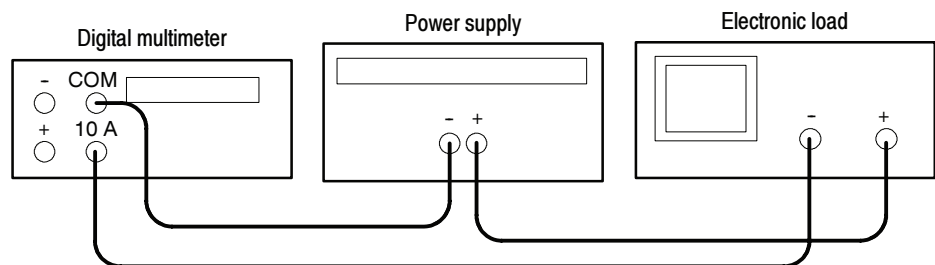

Figure 5: Constant current load test setup
2. Ensure that the power supply output is disabled. Connect the Current Meter and electronic load to the front panel OUTPUT 1 terminals. See Figure 5 for details.
21. Ensure that the power supply output is disabled. Connect the Current Meter and electronic load to the front panel OUTPUT 2 terminals. Maintain the equipment configuration and polarities shown in Figure 5.
2. Ensure that the power supply output is disabled. Connect the Current Meter and electronic load to the front panel OUTPUT 3 terminals. Maintain the equipment configuration and polarities shown in Figure 5.